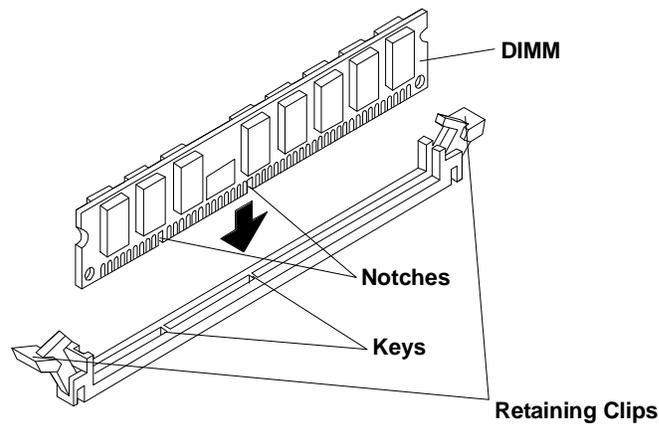

Figure 5-2. DIMM to Socket Alignment
7. Install the DIMMs (see Figures 5-2 and 5-3):
- d. Align the notches on the DIMM with the keys on the socket (see Figure 5-2).